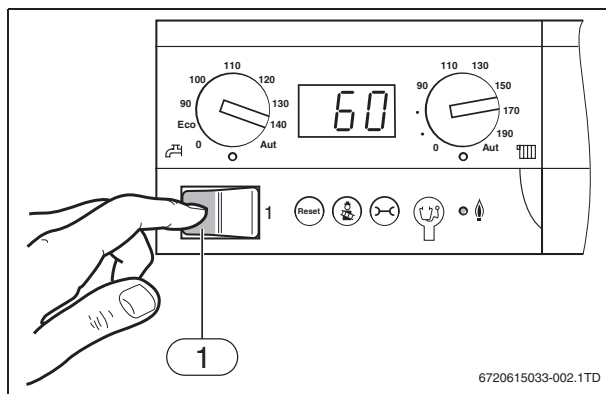

Fig. 1 Main switch
- ▶ Switch off the boiler using the main switch (→ fig. 1, [1]).
- ▶ Switch on the boiler by setting the main switch to position "1" (→ fig. 1, page 5).